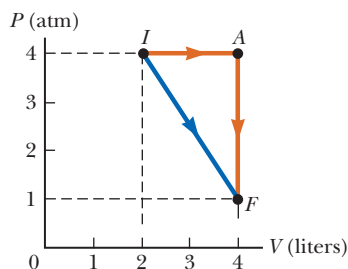

Figure P20.58
58. A gas expands from  $I$  to  $F$  in Figure P20.58 (page 622). **M** The energy added to the gas by heat is  $418 \text{ J}$  when the gas goes from  $I$  to  $F$  along the diagonal path. (a) What is the change in internal energy of the gas? (b) How